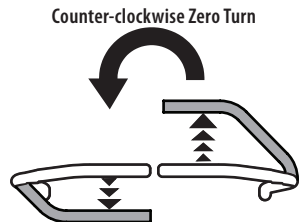

Fig. 28
3. To turn counter-clockwise, move the right lapbar drive control lever forward while simultaneously moving the left lapbar drive control lever rearward (Fig. 28).